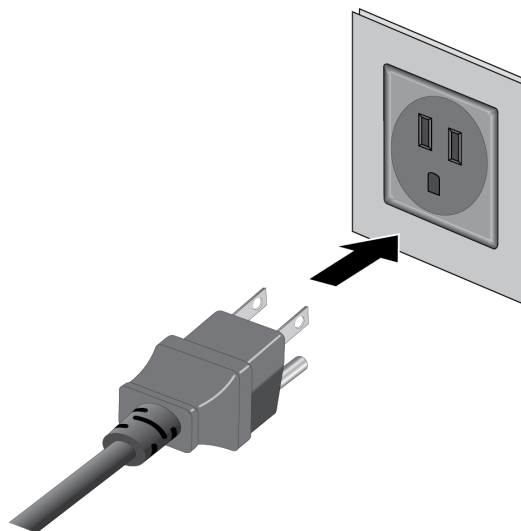

Figure 48. Connecting the Power Cord to an AC Power Source
5. Connect the other end of the power cord to an appropriate power source. Refer to Figure 48.